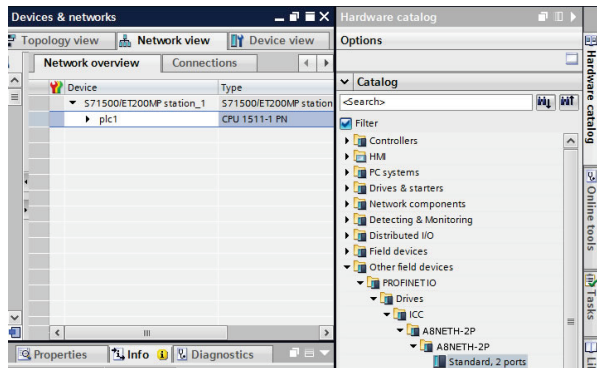

Figure 81: Updated Hardware Catalog
3. This will update the **Hardware catalog**. Locate the device in the **Hardware catalog**. In the **Project tree**, double-click on **Device & networks**. Select the **Network view** tab and locate the device in the **Hardware catalog** as shown in Figure 81.